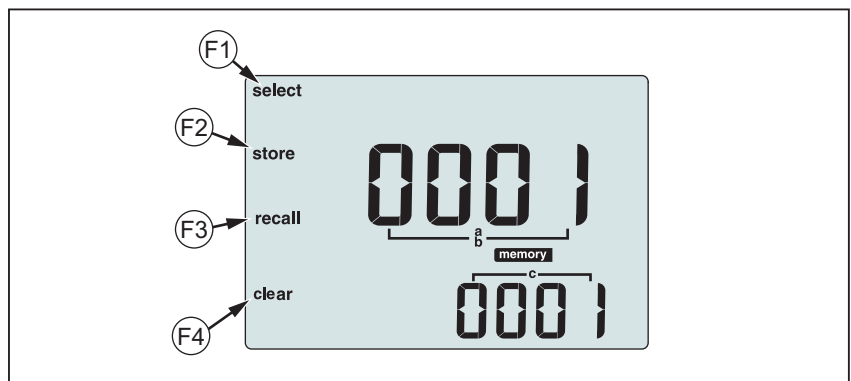

Figure 15. Memory Mode
1. Press  to enter Memory mode. See Figure 15.